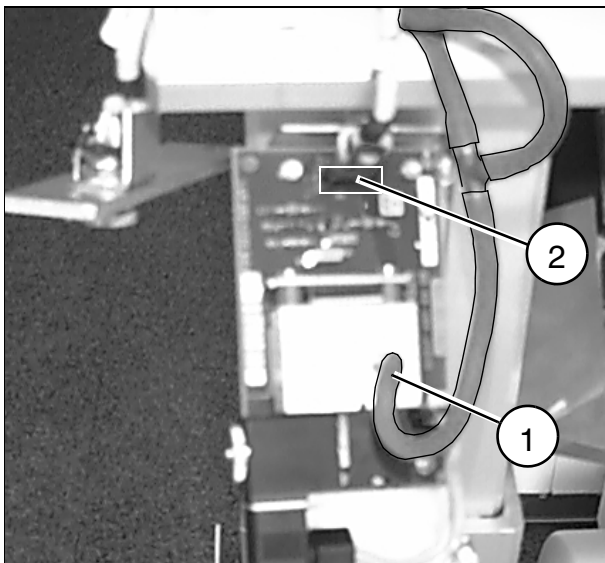

Fig. 3
- Connect the hose to the connecting piece (1/Fig. 3) and to cable D27.X1 (2/Fig. 3) of board D27.